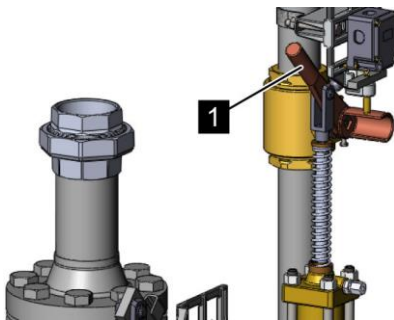

Fig. 161: Closing the selector valve
10. ➤ Fit the hand lever (Fig. 161/1) onto the operating element of the selector valve.
12. ➤ Take off the hand lever of the operating element (Fig. 161/1) and store it safely in the vicinity of the system.